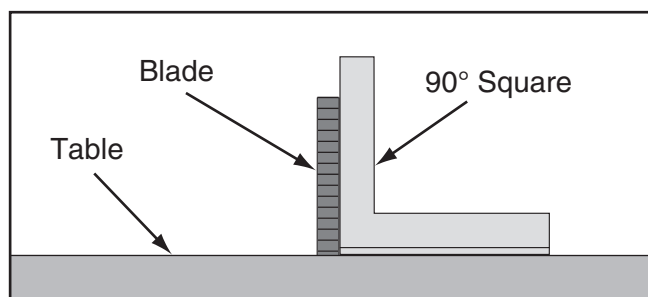

Figure 106. Checking blade at 90°.
3. Place a 90° square against the table and blade so it contacts the blade evenly from bottom to top, as shown in **Figure 106**. Make sure a blade tooth does not obstruct the placement of the square.